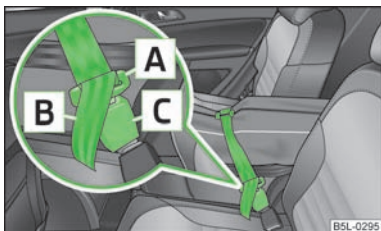

Fig. 84
- Insert the lock tongues **A** » Fig. 84 in the belt locks of the rear middle seat belt **C**, first of all on the one side and then on the other side.